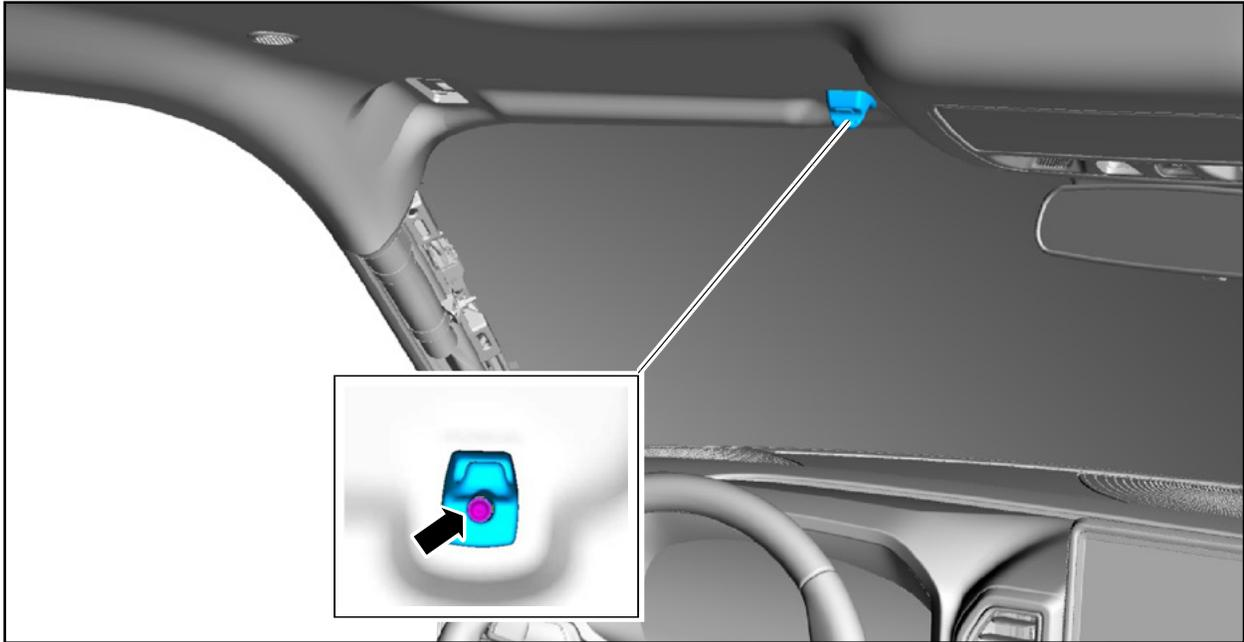

FIGURE 29
29. Remove the screw and the sun visor clip. See Figure 29.